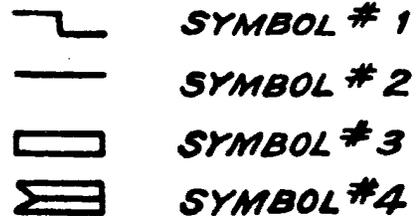

FIG. 5 SYMBOLS USED ON RELAY RACK TERMINAL ASSEMBLY DRAWINGS
4.8 The symbols found on the right end of the drawing refer to the different terminal strips and insulators used when finally putting the assembly together. The symbols and their interpretations are shown on Figure 5, and as listed below:
Symbol No. 1, Figure 5, represents the standard 60 terminal A. E. style terminal strips - D-31708.
Symbol No. 2, Figure 5, represents the thin (1/64") red fibre insulator D-31706.
Symbol No. 3, Figure 5, represents the thick (1/16") red fibre insulator D-31707.
Symbol No. 4, Figure 5, may represent one of the following: